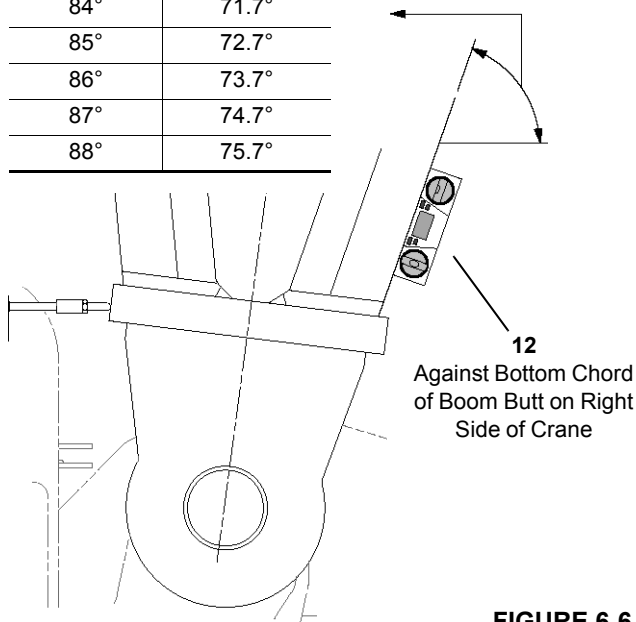

FIGURE 6-6
- Place an accurate digital level (12) on the boom butt as shown in Figure 6-6. The corresponding **Digital Level Angle** should appear on the digital level.